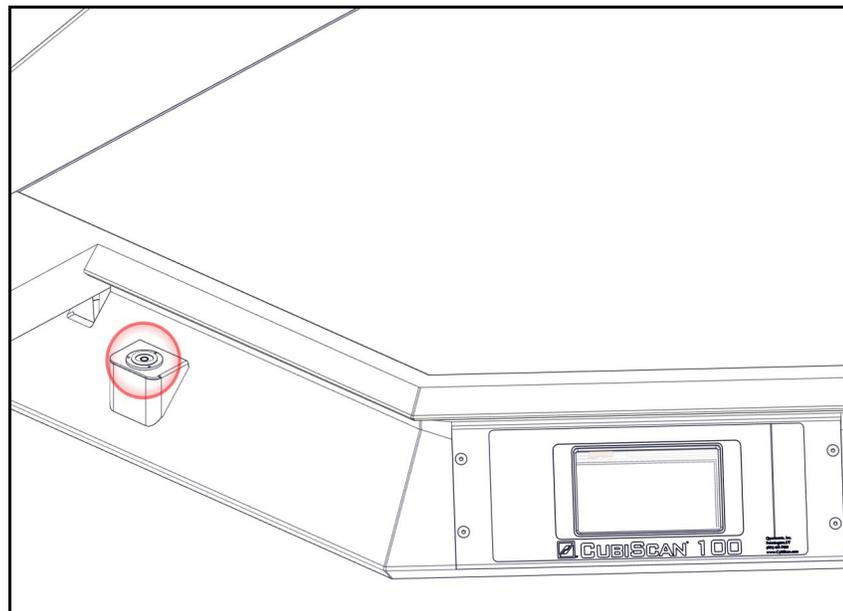

Figure 10
2. Figure 10 shows the location of the leveling bubble. Look at the leveling bubble and determine if the Cubiscan 100-T is level.